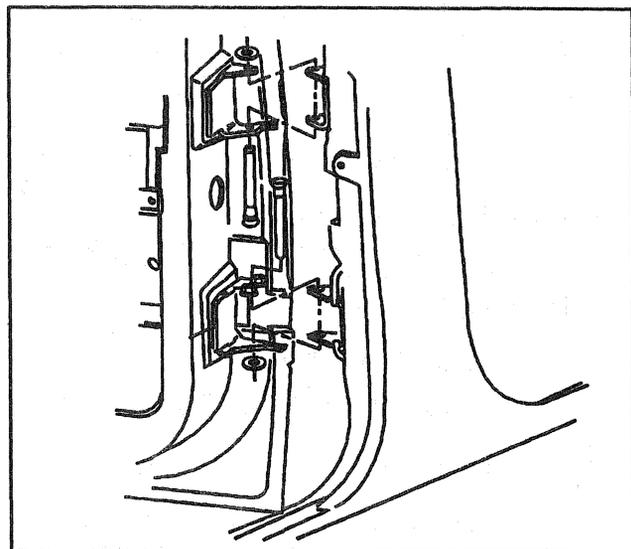

Figure 59—Rear Door Hinge Pin Removal
1. Lower hinge pin retainer (Figure 59).
3. Upper hinge pin retainer (Figure 59).